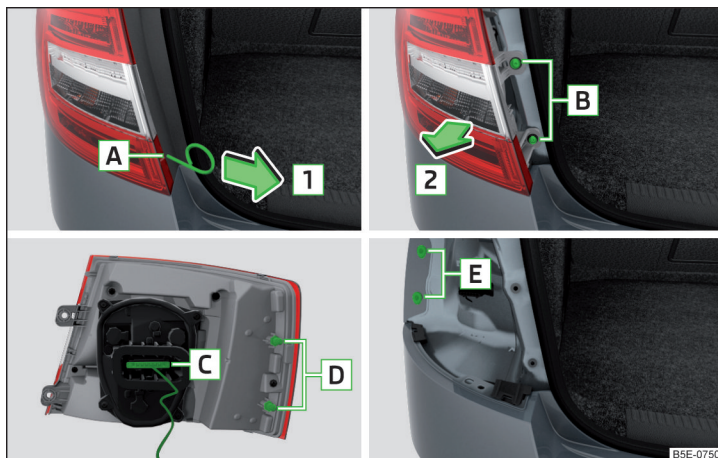

Fig. 360 Removing lamp
- › Insert the clamps for removing the full wheel trims into opening **A**1) » Fig. 360.
- › Insert the lamp with pins **D** » Fig. 360 into the recesses **E** in the body.